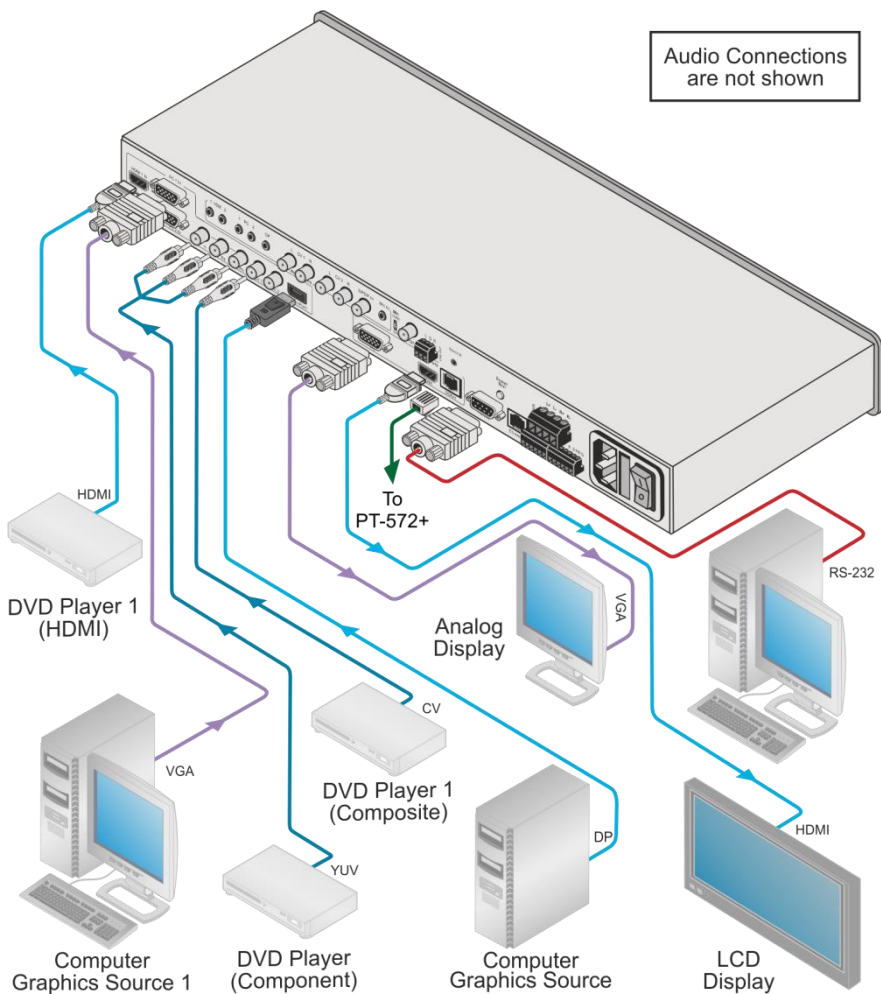

Figure 4: Connecting the VP-770 Presentation Switcher/Scaler
To connect the **VP-770**, as illustrated in the example in Figure 4, do the following:
6. Connect the audio input signals to the AUDIO IN connectors (3.5mm mini jack and RCA connectors), as required (not shown in Figure 4).
10. Connect the SPKR Terminal Block connector to speakers (not shown in Figure 4).
11. Connect the SPKR block connector to a pair of loudspeakers, by connecting the left loudspeaker to the “L+” and the “L-” terminal block connectors, and the right loudspeaker to the “R+” and the “R-” terminal block connectors. **Do not Ground the loudspeakers** (not shown in Figure 4).
13. Connect the power cord (not shown in Figure 4).